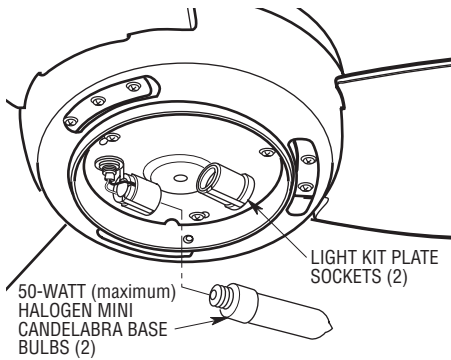

Figure 13
- 1. Screw in two 50-watt (maximum) halogen mini candelabra base bulbs in the light kit plate sockets (Figure 13).